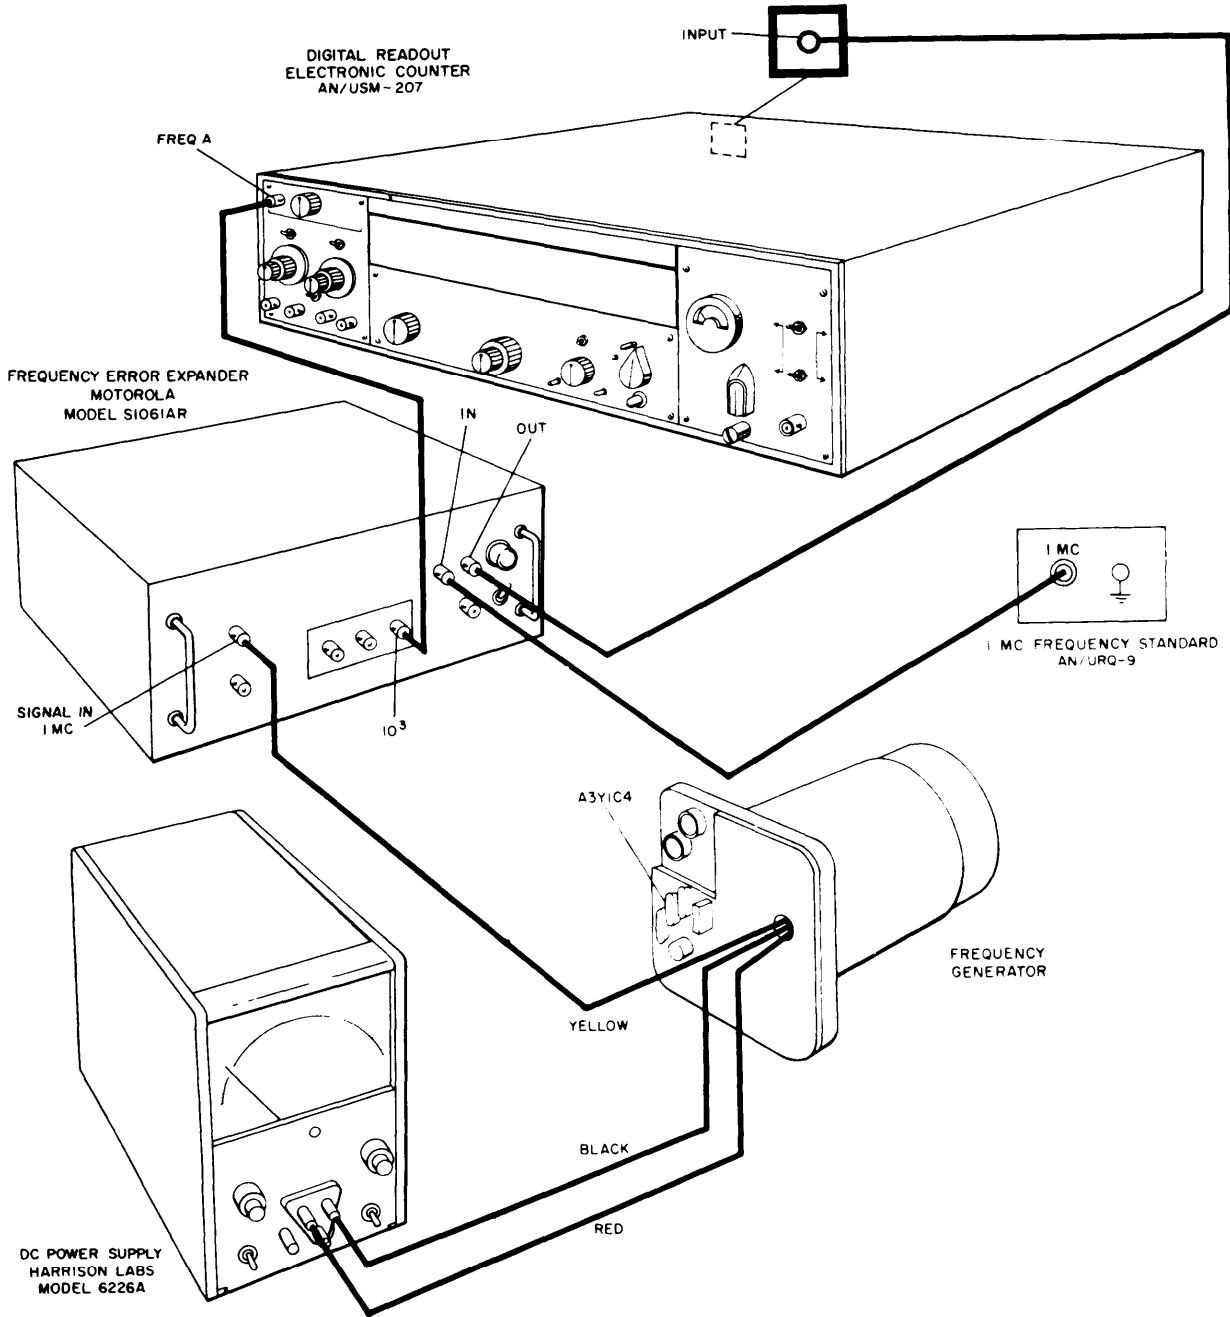

Figure 5-30. Selecting Capacitor A3Y1C4, Test Setup
(1) Loosen the two locking screws and turn the COARSE and FINE adjustment capacitors A3Y1C3 and A3Y1C2 fully counterclockwise.
(2) Follow the procedure of steps (1) through (8) of paragraph ae, and separate the frequency generator from the crystal oven.
(3) Place frequency generator into a temperature chamber preheated to +75°C; leave it in the temperature chamber for a minimum of two hours.
(4) Remove the frequency generator from the temperature chamber.
(5) Connect frequency generator within the test setup shown in figure 5-30.